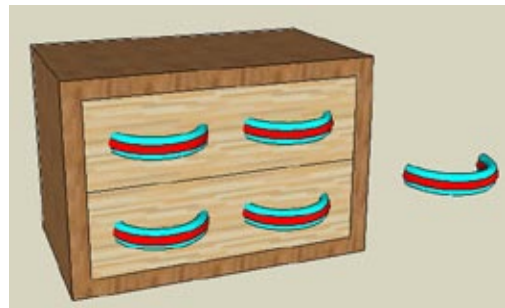

Figure 3-45
1. Start with a cabinet that has one handle component off to the side and the rest of the handle components protruding slightly into the cabinet front. You can create your model from scratch, or download my Cabinet model from the 3D Warehouse (Figure 3-45).